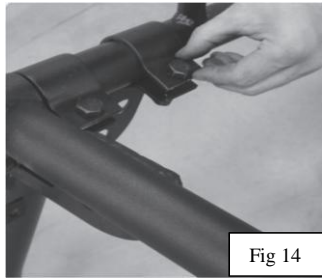

Fig 14
6. Install 2 #12 x 45mm bolts with flat washers, spring washers and locknuts into the top clamp portion of the rear upright (Fig 14). Repeat for the other side. **Do Not Tighten**